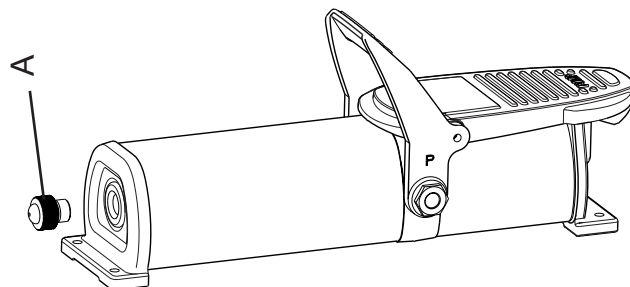

Fig. 6
- Stand the pump up with the pneumatic motor lowermost (Fig. 6).
- Unscrew the oil filler plug (Fig. 6, item A).